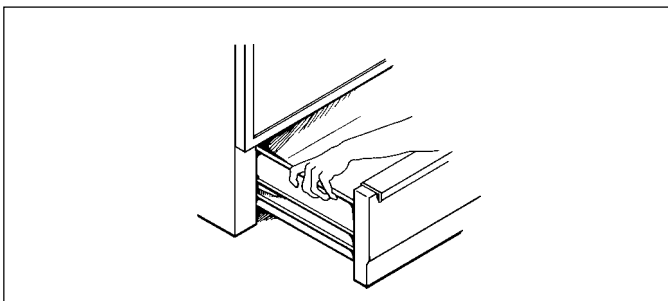

Figure 19
2. Grasp drawer sides near back of drawer. (Figure 19)